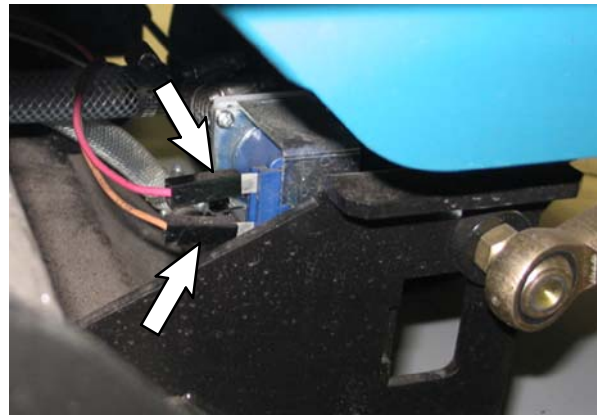

FIG. 3
5. Disconnect the main wire harness from the water valve attached to the scrub head. Refer to Fig. 3.
6. Connect the two wires previously attached to the water valve to the *ec-H2O* harness. Refer to Fig. 3 and Fig. 8.